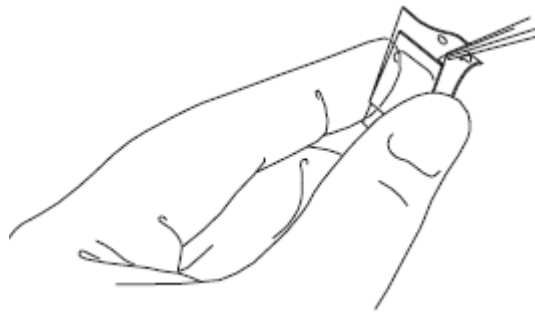

Figure 7
8. The silicone backing can also be easily removed by peeling it away from the coverslip for routine slide mounting as shown in Figure 7.